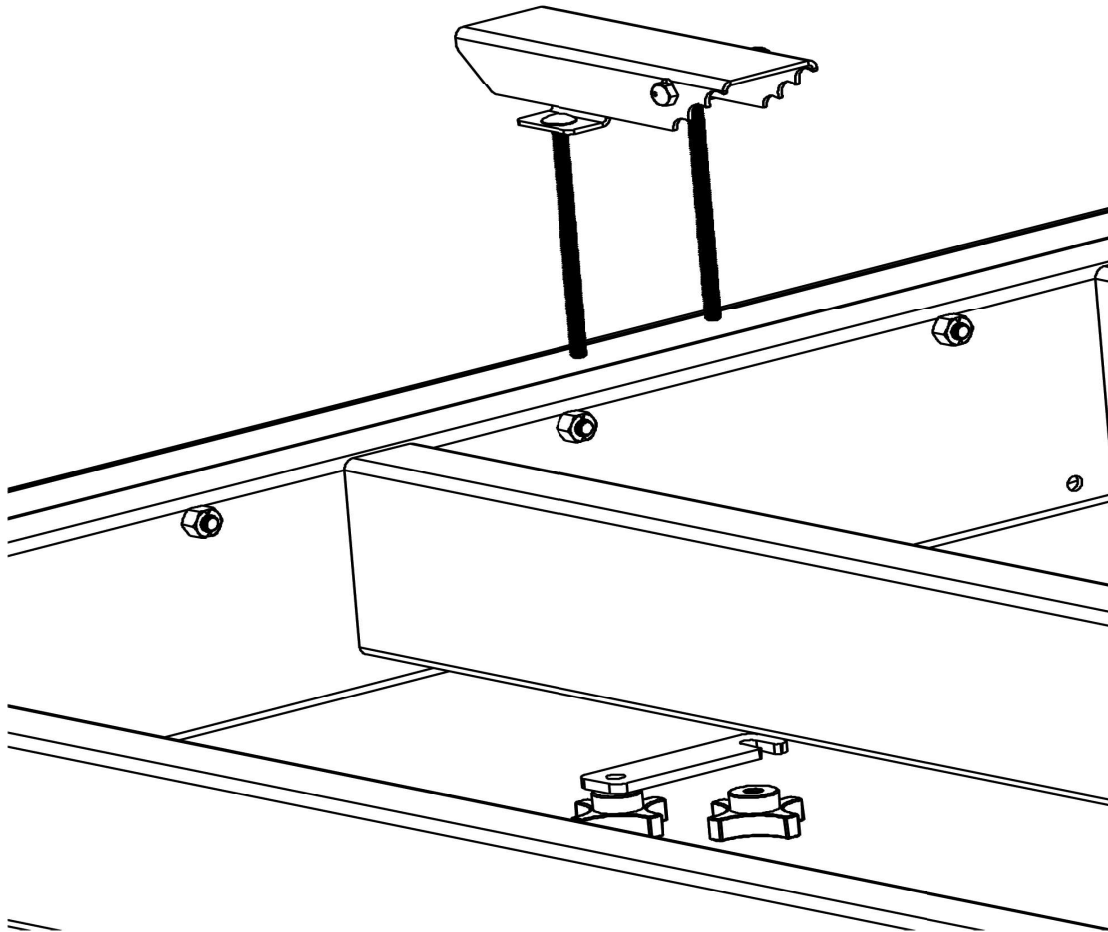

FIG. 3-8
1. The Slab Flattener includes (4) Clamp assemblies for securing material to the bed. These clamps ride along the cross rails of the bed section and are secured from underneath using the clamp bracket plate and (2) star knobs for each clamp. See FIGURE 3-8